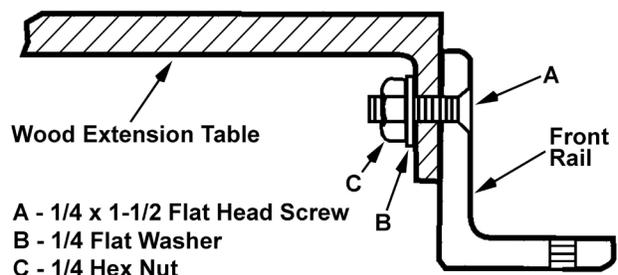

Figure 10
4. Install three 1/4 x 1-1/2 flat head screws, three 1/4 flat washers, and three 1/4 hex nuts into the holes in the front edge of extension table as shown in Figure 10. Finger tighten only.